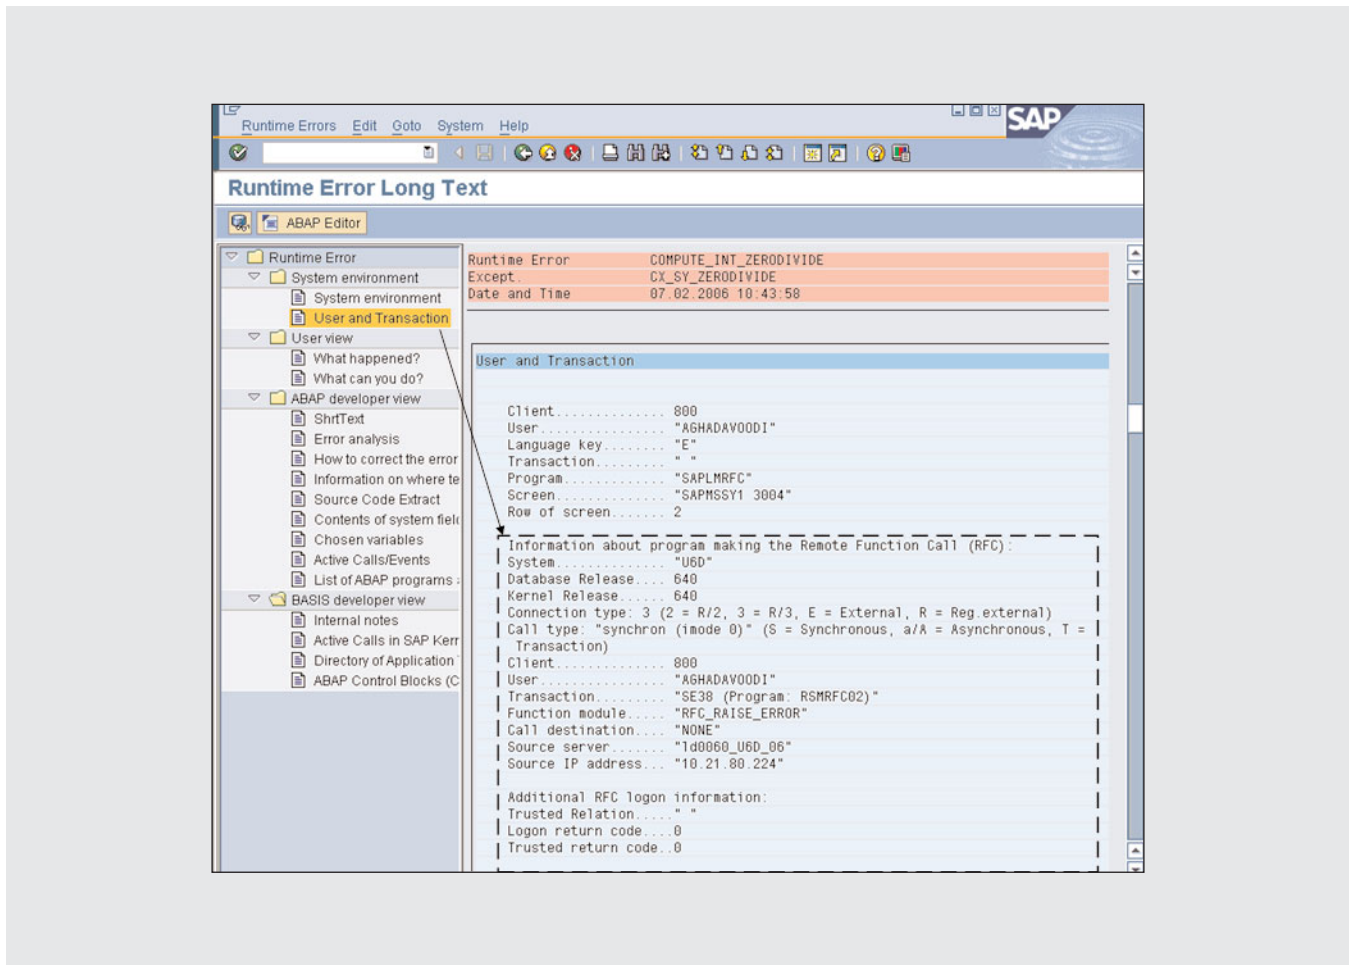

Figure 9 RFC-related section in ABAP runtime errors
- **Message type X or ABAP runtime errors:** The ABAP runtime errors include a detailed description of the error situation and the involved ABAP sources. Those messages are recorded in transaction ST22 on the affected system. If an ABAP runtime error occurs during the execution of an RFM, you can find the error in the User and Transaction section, as shown in **Figure 9**.